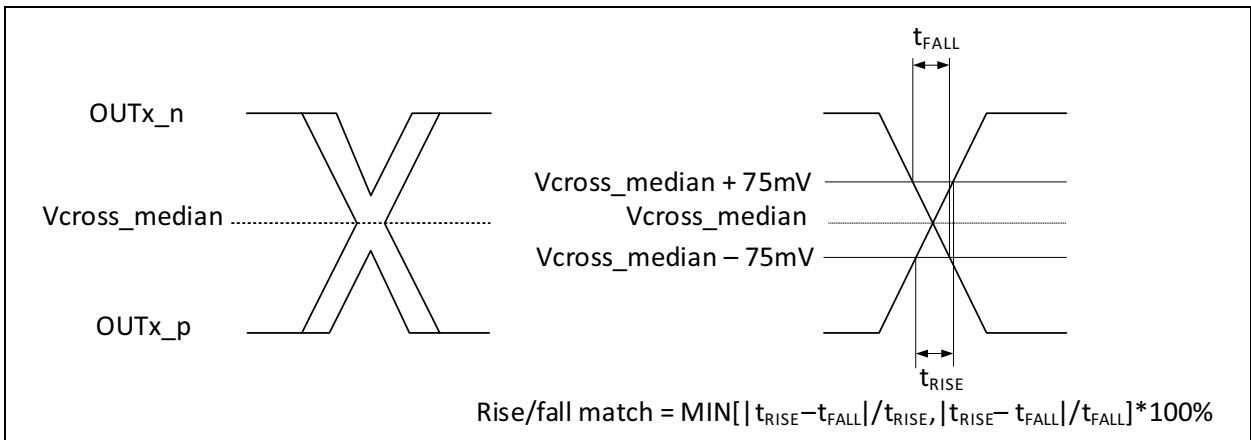

FIGURE 1-3: Single-Ended Measurement Points for Rise and Fall Time Matching.
- 10: Matching applies to rising edge rate for $OUTx_p$ and falling edge rate for $OUTx_n$. It is measured using a ± 75 mV window centered on the median cross point where $OUTx_p$ rising meets $OUTx_n$ falling. The median cross point is used to calculate the voltage thresholds the oscilloscope is to use for the edge rate calculations. The Rise Edge Rate of $OUTx_p$ should be compared to the Fall Edge Rate of $OUTx_n$; the maximum allowed difference should not exceed 20% of the slowest edge rate. See Figure 1-3.